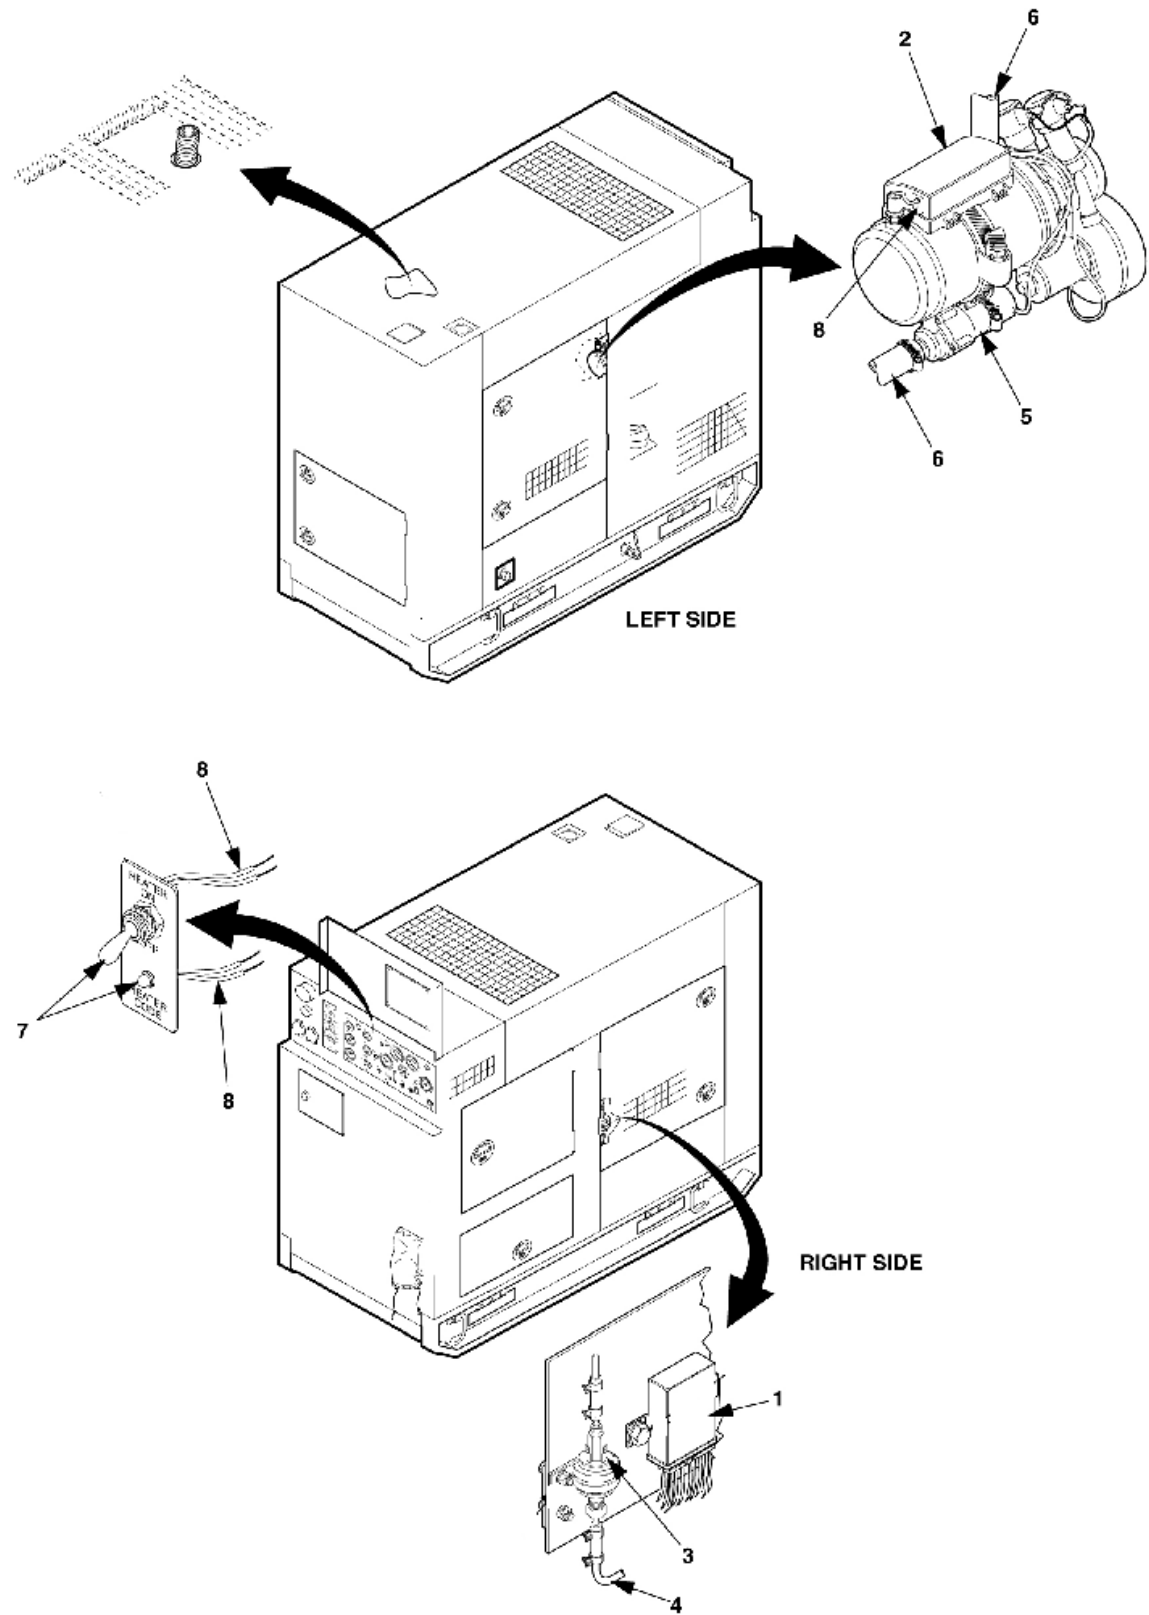

Figure 1-1. Location of Major Components for 60kw (MEP-806A, MEP-816A).
Figure 1-1 illustrates the major components of the kit and shows their locations on the 60kw Tactical Quiet Generator Set. (Refer to Table 1-1 for item names).
2-1.1.1 Heater Indicator Light. A light at the heater ON-OFF switch (item 7, figure 1-1) lights when the heater is operating. The light also serves as a troubleshooting code light (See paragraph 3-1.1).